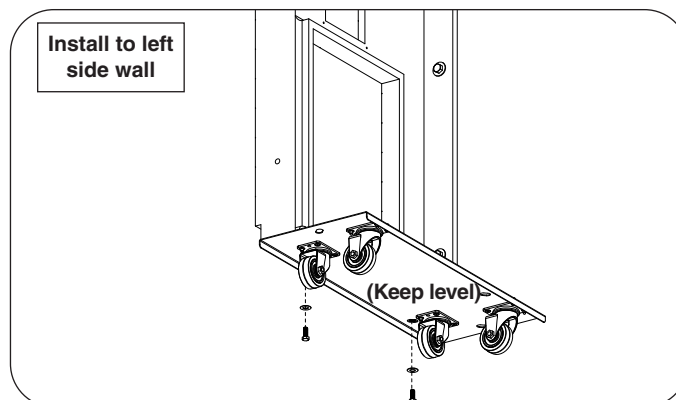

Fig. 4-2 Install left wheel assembly to bottom of left side wall
1. Align the left wheel assembly onto the left side wall and fasten using the included hardware and a $\frac{9}{16}$ " open-end wrench or equivalent. Hand tighten only. See Fig. 4-2.